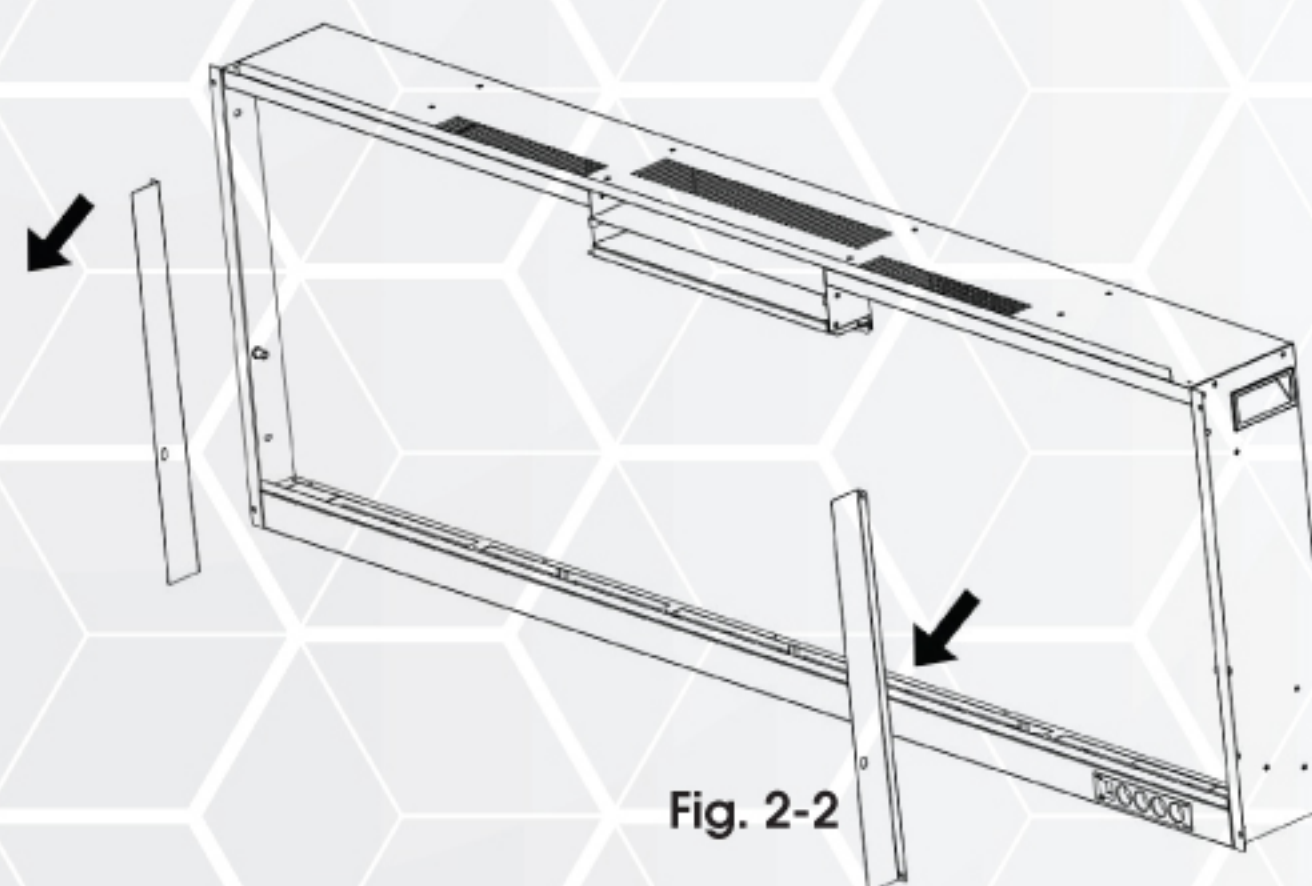

Fig. 2-2
- Remove the two brackets and set them aside. (Fig. 2-2)